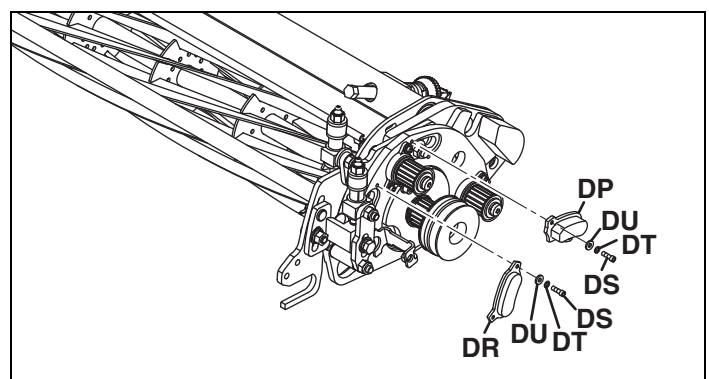

Figure 8
20. Assemble upper and lower slot cover assemblies (DP and DR) to drive side groomer using #8-32 x 1/2" socket head screws (DS), lockwashers (DT) and flat washers (DU). **See Figure 8.**